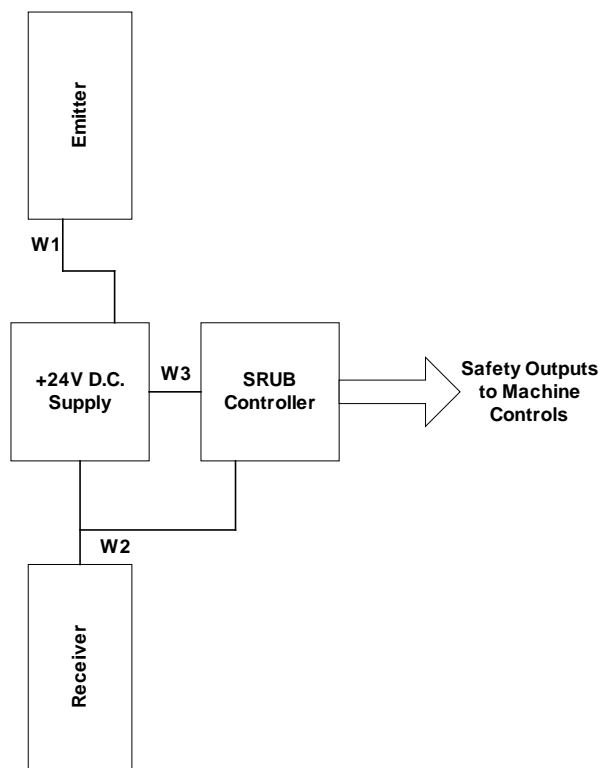
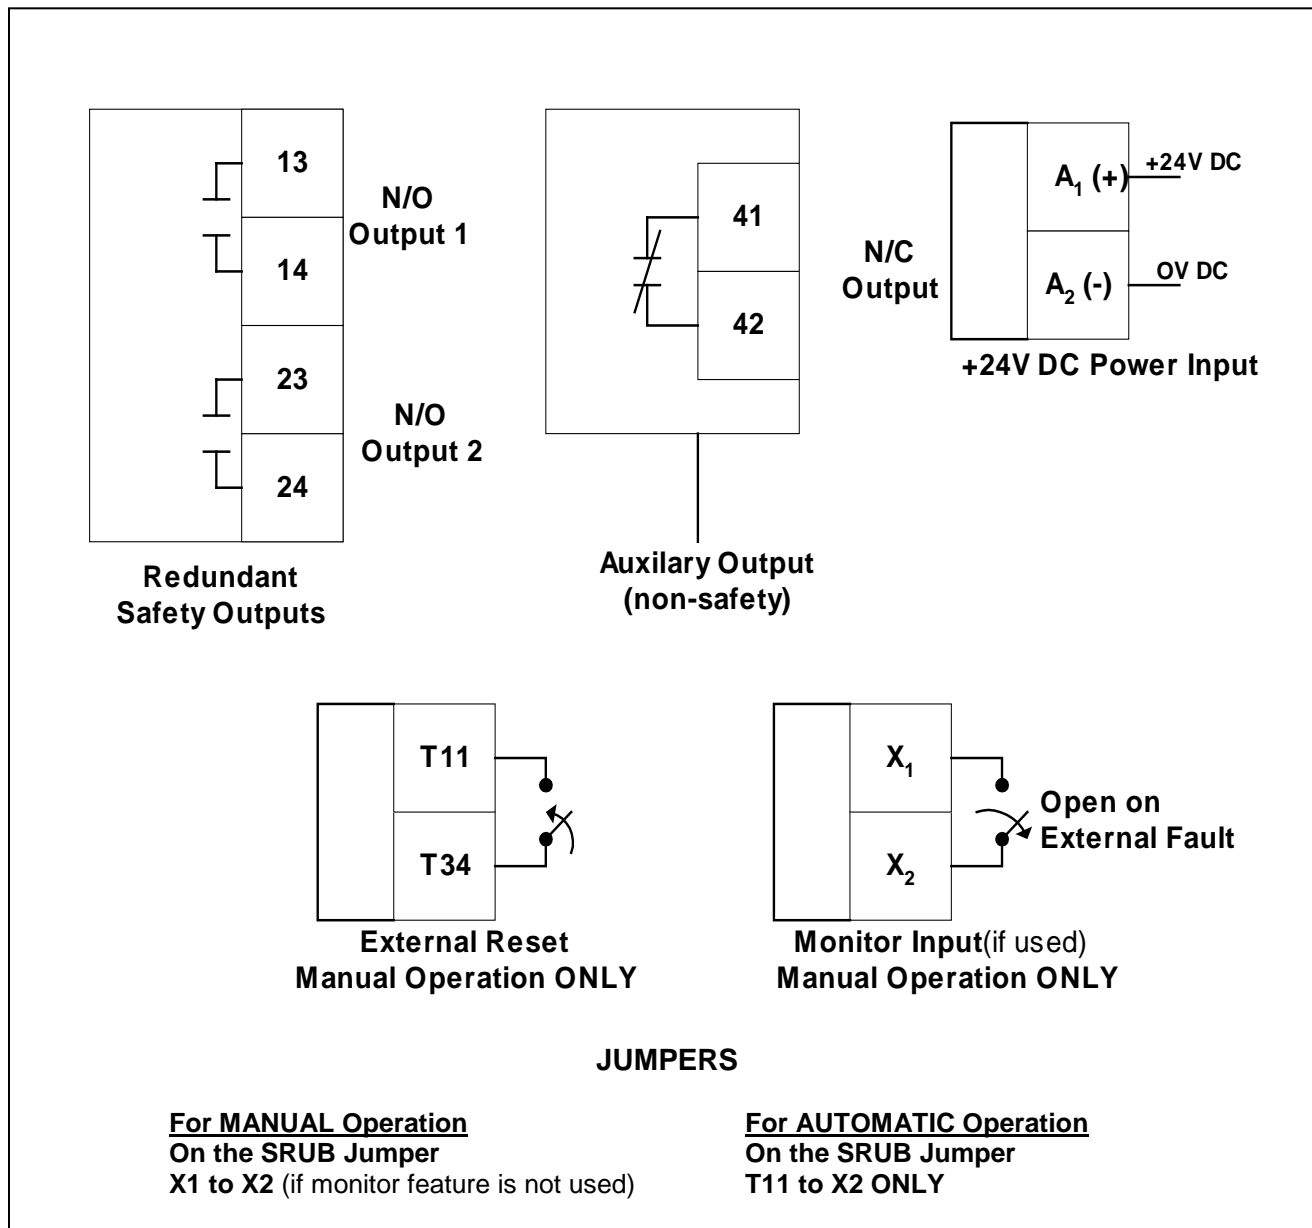

Figure 60 System Block Diagram For the SRUB Interface Unit
Figure 61 Input and Output Functions, Jumper Details and Terminal Markings for the SRUB
The SRUB controller has twenty integral connection terminals, in two rows, along the top of the unit. The terminals are marked according to their intended function. Each terminal is suitable for up to two (2) 2.5mm² (14 AWG) solid wires. Crimped ferrules or tinning must be used on all stranded wires. **Figure 60** shows the system block diagram for the SRUB controller. **Figure 61** shows the terminal numbers for the various input and output functions.
In the manual reset mode, the SRUB Controller requires an external reset switch. This switch should be a normally-open, momentary-contact type. The location of the reset switch must be such that any person resetting the safety system must be able to completely see the hazardous area. The system should not be able to be reset if an operator is within the hazardous area, or if a fault exists in the safety system and/or machine control circuitry. The reset circuit of the SRUB Controller is designed to protect against a failure (failed closed) or by-pass of the reset button. The reset circuit requires a closure and return to an open position. Replacing the reset switch with a simple jumper will not convert the SRUB Controller to automatic reset operation. (For automatic reset operation, see the jumper configuration in **Figure 61**.)